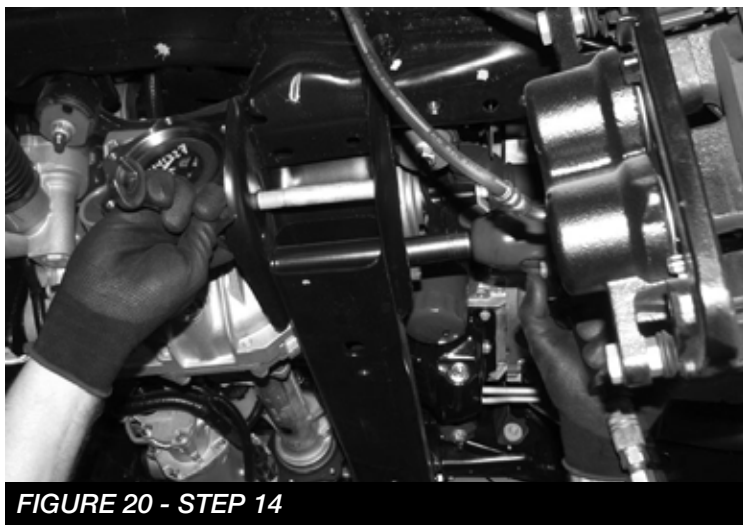

FIGURE 20 - STEP 14
14. Locate and remove the rear factory cross member and discard. **SEE FIGURE 20**